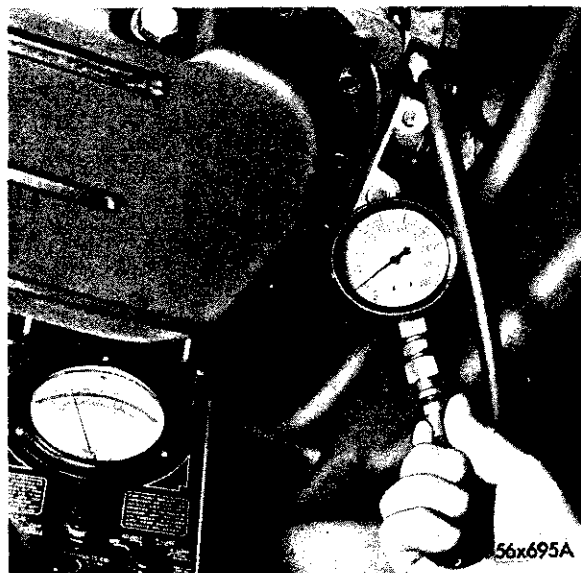

Fig. 42—Checking Governor Pressure
b. Governor Pressure (Fig. 42)